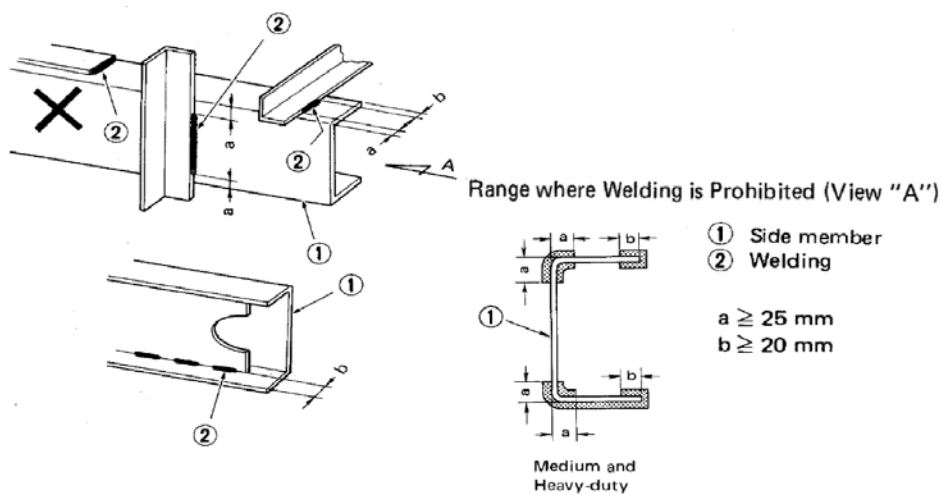

Fig. 3-12
2. In the case of steel with a high tensile strength of 539 MPa (55 kgf/mm²). In addition to the welding prohibition range in Fig. 3-12, welding to the outside of the upper flange is also prohibited.